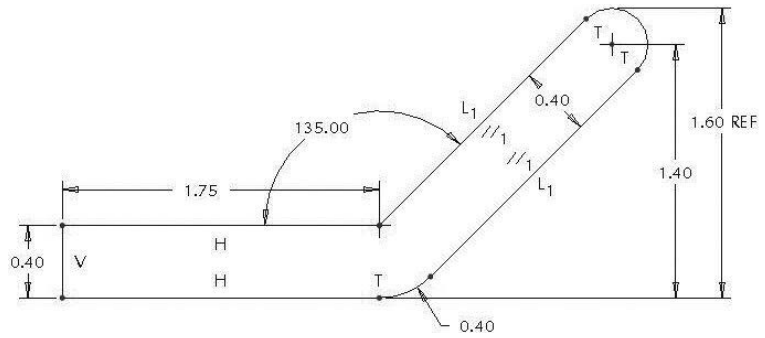

Figure 3-41 Control Bracket
Step 49: Draw control bracket side view (Figure 3-41).